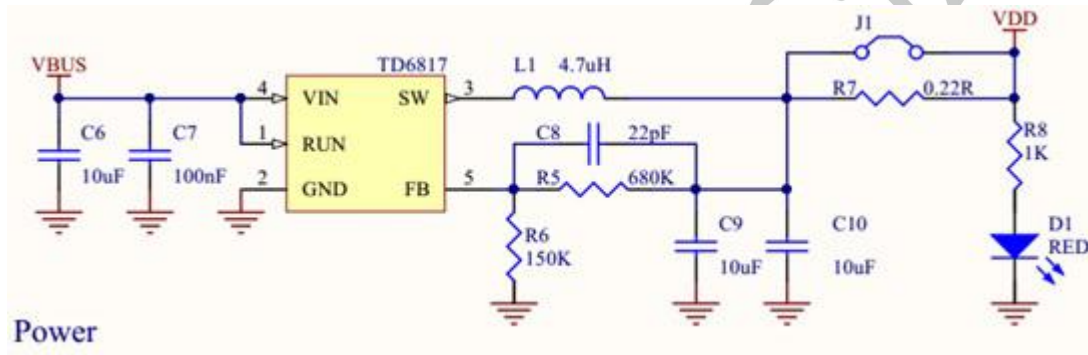
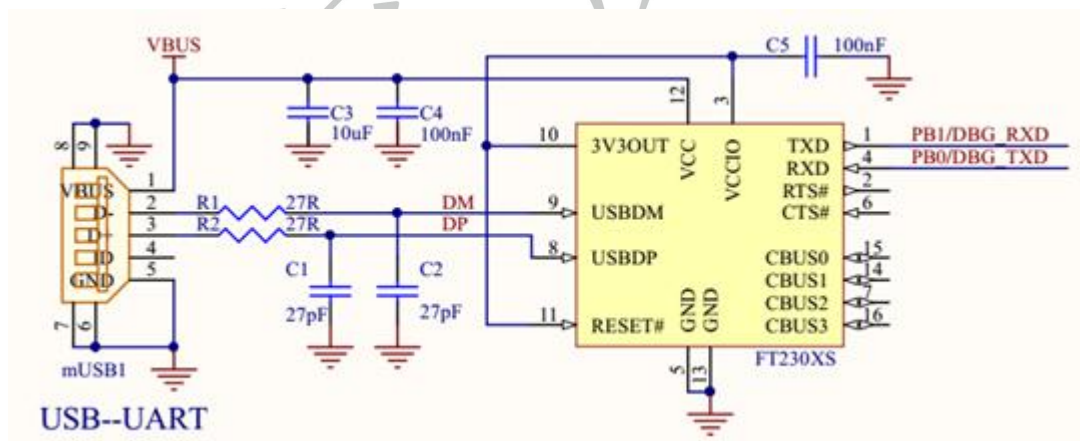
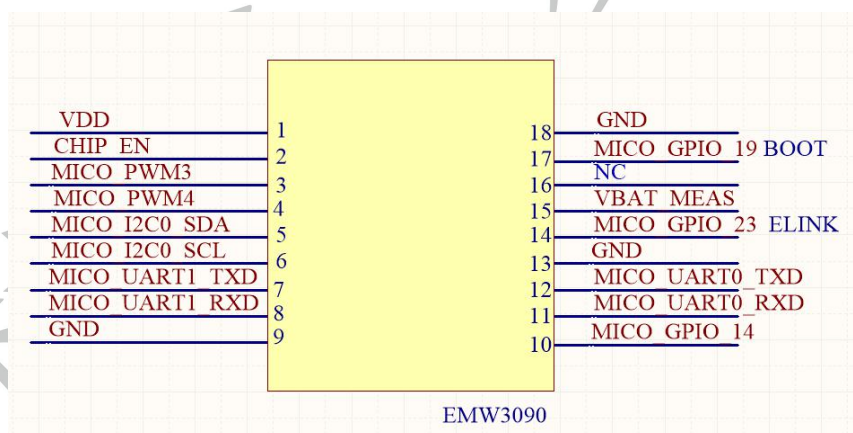

Figure 9 Power Source Circuit
Figure 10 USB to UART
Figure 11 External Interface Circuit of EMW3090
- SMT patch should on the basis of reflow profile diagram, maximum temperature 245°C , reflow profile diagram is shown in figure 10;
Power source circuit is shown in figure 9, USB to UART is shown in figure 10, external interface circuit is shown in figure 11.